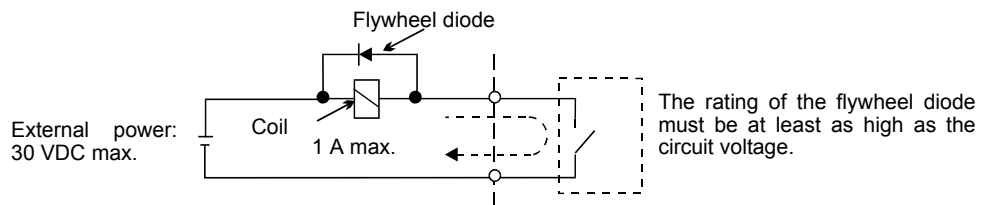

Fig 2.12 Flywheel Diode Connection
- * 2. When driving a reactive load, such as a relay coil with DC power supply, always insert a flywheel diode as shown in Fig 2.12.